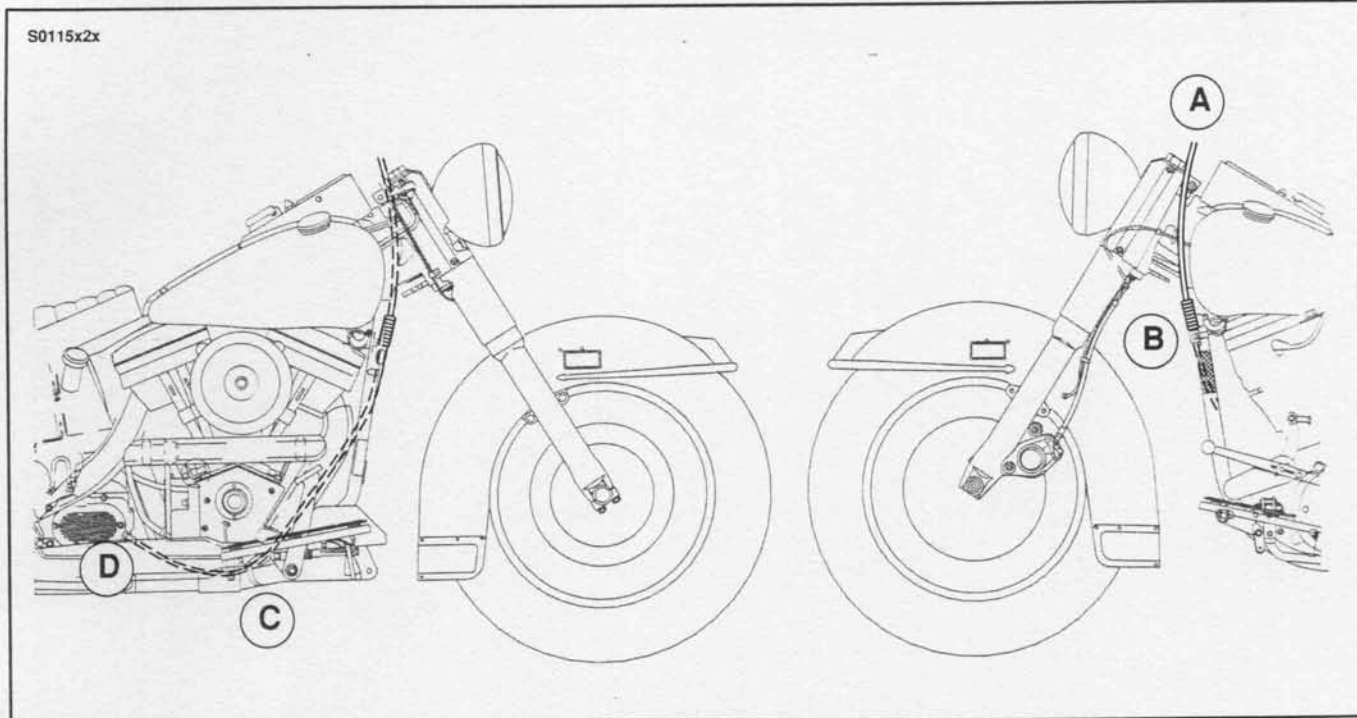

Figure 2-88. Clutch Cable Routing
4. See Figure 2-88. Route clutch cable as follows: